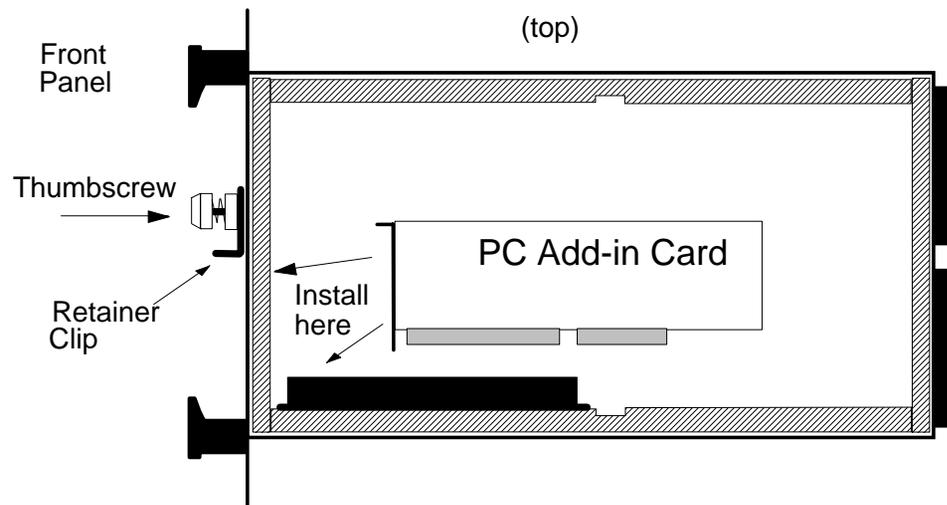

Figure C-3. Inserting the PC Add-In Card.
- Loosen the front-panel thumb screw shown in Figure C-3 below. Slide the retainer clip up (toward the top of the EPC7-AM) as far as it will go.
- ÿ Position the add-in card inside the EPC7-AM as shown in Figure C-3 above. Slide the add-in card toward the front panel until the metal end-panel of the add-in card is past the card-edge connector. Then move the add-in card down and slide it forward again to allow the flange on the top of the metal end-plate to pass through the slot in the front of the EPC7-AM as shown in Figure C-3.